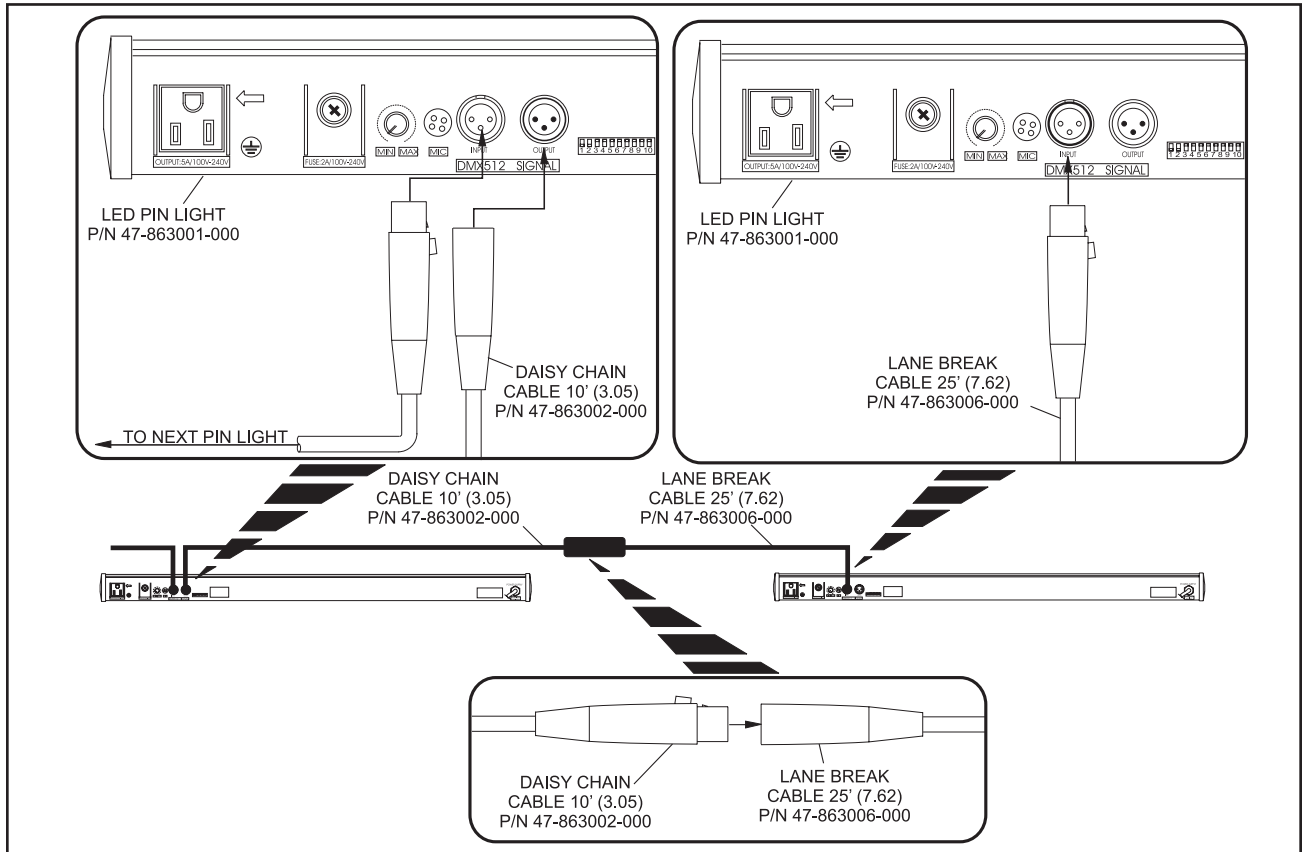

Figure 14
**NOTE:** If there is a large gap between two lanes, the data cables can be connected together to create a longer cable. Refer to Figure 14.